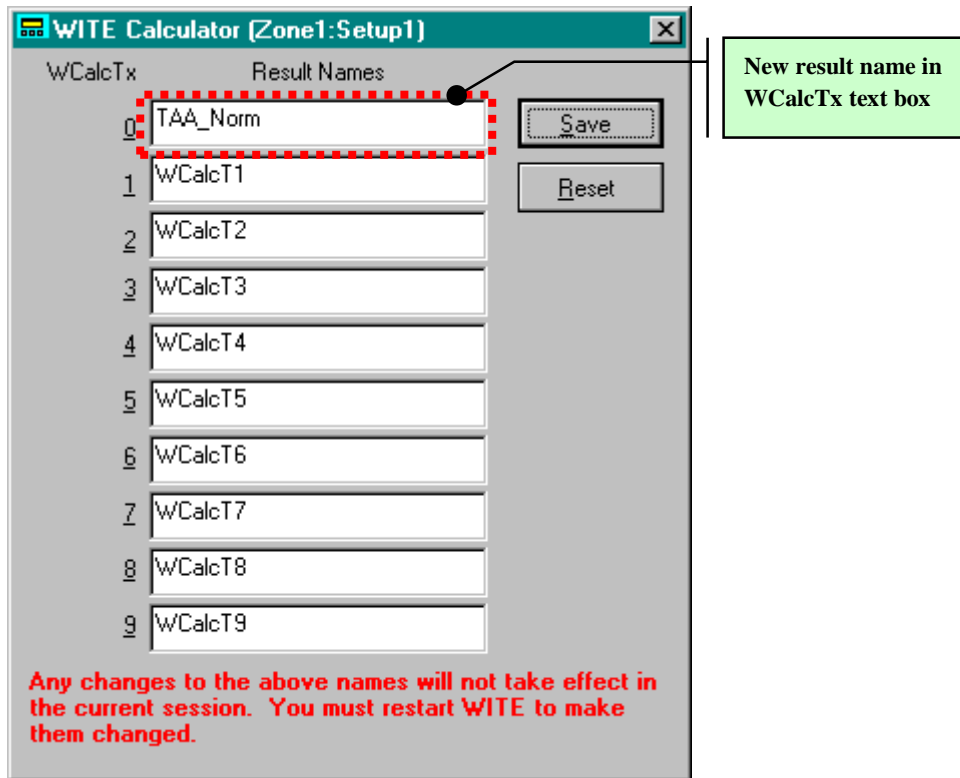

Figure 4: WITE Calculator Dialog Box
3. Find the *WCalcTx* text box with the result name you want to change and type the new name there (see Figure 4). Press the *Save* button.